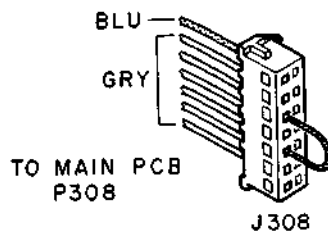

Fig. 6-1 J308 Connector
- 3) Connect a short wire pin 3 to pin 5 of J308 as shown Fig. 6-1 (Tape loaded mode).